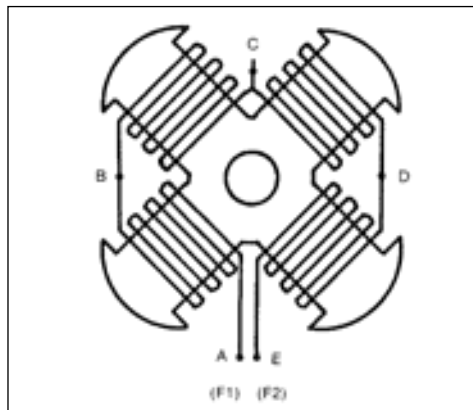

Figure 8-1
**Step 3:** Measure and record voltages across each pole. Between points "a" and "B"; "B" and "C"; "C" and "D"; and "D" and "E" (figure 8-1).